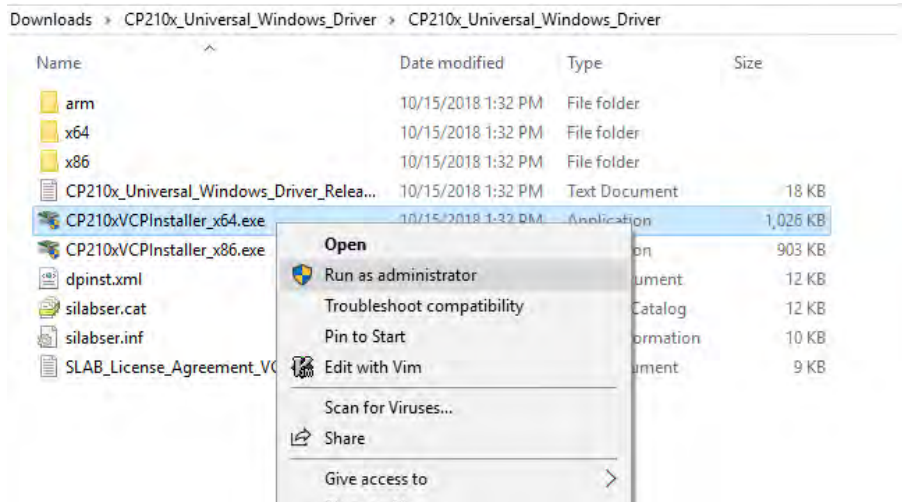

Figure 7.2 Install as the Administrator
3. Depending on your system right-click and run the 32-bit or 64-bit installer as administrator to begin installation, see **Figure 7.2**.